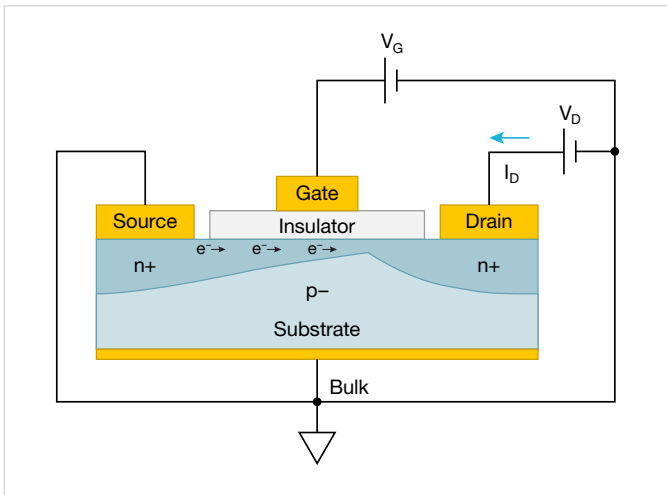

Figure 3. Simplified MOSFET circuit.
**Figure 3** shows an n-channel MOSFET, or an nMOS transistor, with four terminals: the gate, drain, source and bulk. The source and drain contacts are heavily doped n+ areas. The substrate is a low doped material, p-. The gate is insulated from the channel with a very thin oxide layer often SiO2.